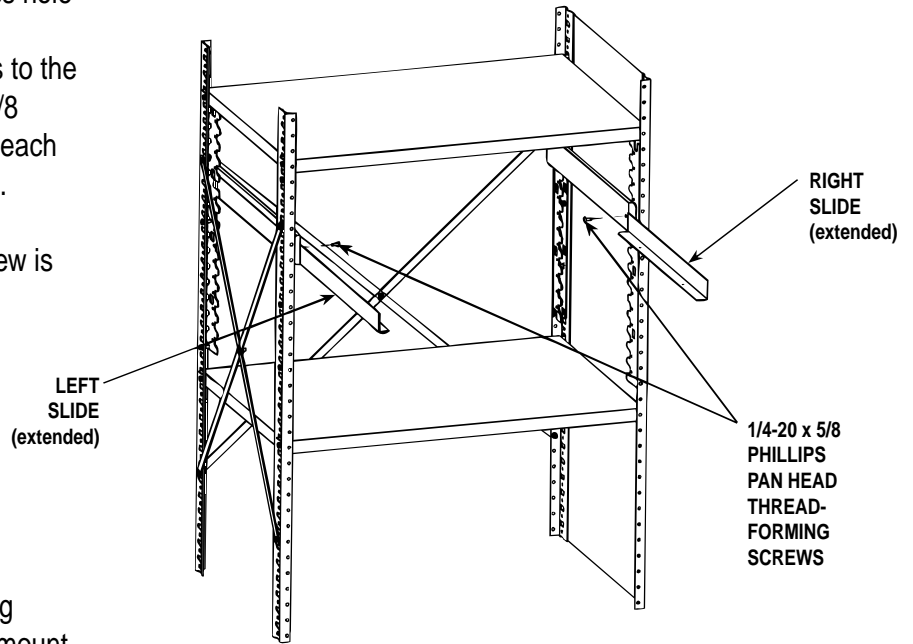

FIGURE 4.3
4. Extend the drawer slide to reveal the access hole used to fasten the drawer slide to the front mounting upright. Fasten the drawer slides to the mounting uprights using one (1) 1/4-20 x 5/8 Phillips pan head thread-forming screw for each slide. (See Figure 4.3). Proceed to Step 5.